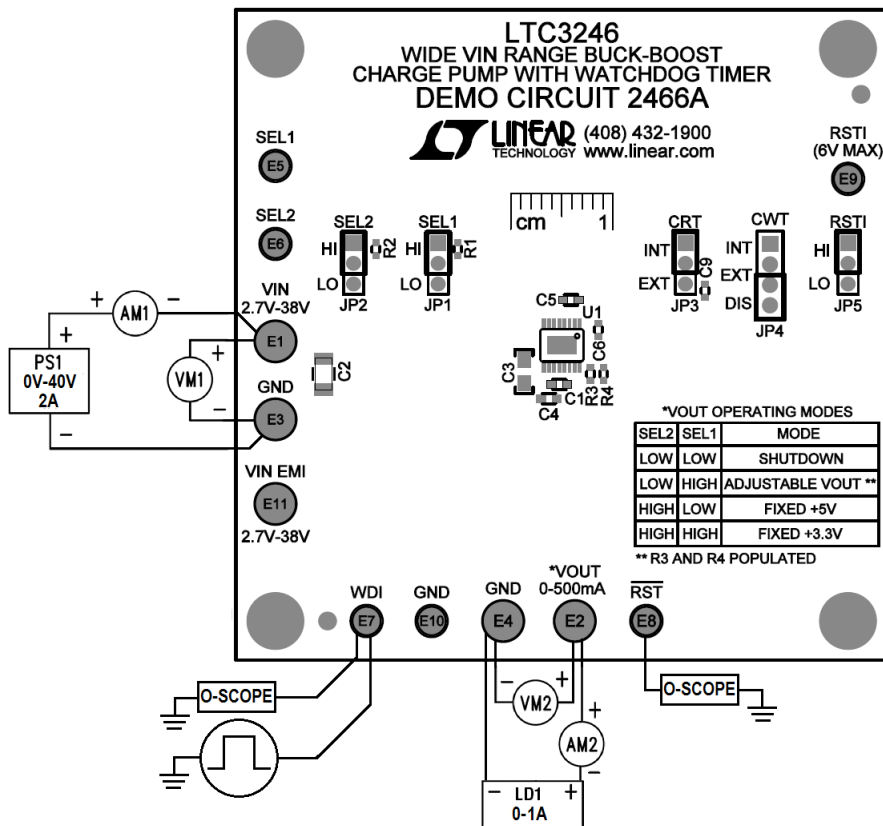

Figure 1. Proper Measurement Equipment Setup for DC2466A
Refer to Figure 1 for the proper measurement equipment setup and jumper settings and follow the procedure below.
21. Return the jumpers to their default settings as shown in Figure 1 if desired.